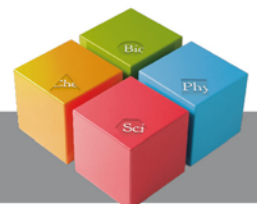

Fig. 10 Adjustment of the visible area.
- 1> Turn the two screws indicated in Fig. 10 to get the desired view of the sample.